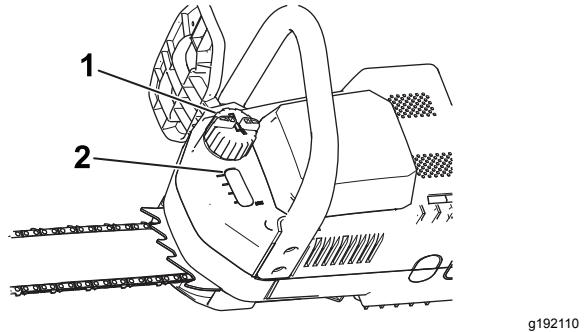

Figure 1
2. Clean the area around the oil cap (Figure 1).
3. Remove the cap and pour oil into the chain saw until the oil fills the window (Figure 1).